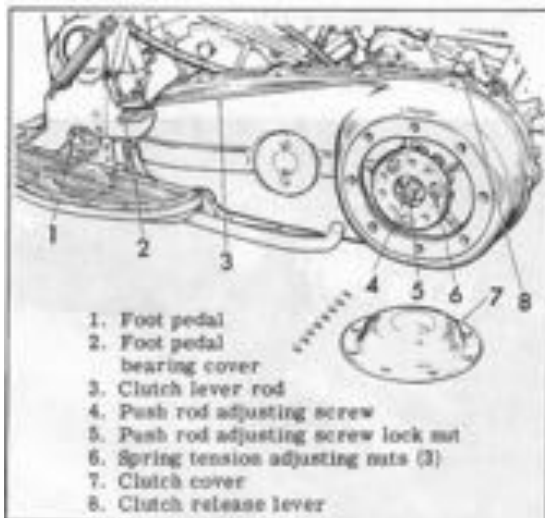

Figure 4B-1. Adjusting Foot Clutch Control (1964 model shown)
ADJUSTING FOOT CLUTCH CONTROL (Fig. 4B-1)
ADJUSTING HAND CLUTCH CONTROL (1968 AND LATER MODELS) FIG. 4B-1A
Loosen control coil adjusting sleeve lock nut (2) (Fig. 4B-1A) and turn control coil adjusting sleeve (1) all the way into bracket. Remove chain housing cover, loosen clutch push rod screw lock nut (4) and turn screw (5) in (clockwise) to move lever (8) to the rear, or outward (counterclockwise) to move end of lever forward. When 1/2 inch clearance between lever and starter motor has been attained, tighten lock nut (4) and reinstall chain housing cover.